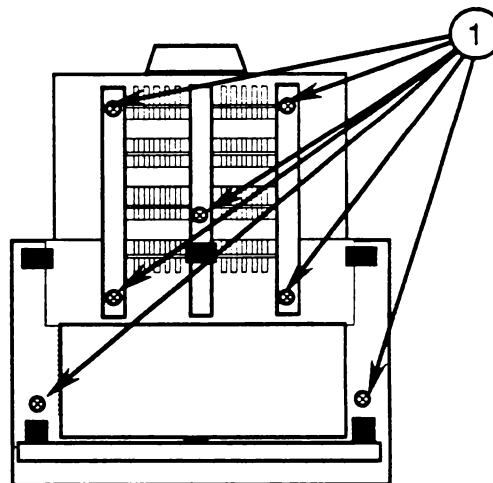

FIGURE 12
4. Replace the seven screws (Figure 12, #1) on the bottom of the monitor.